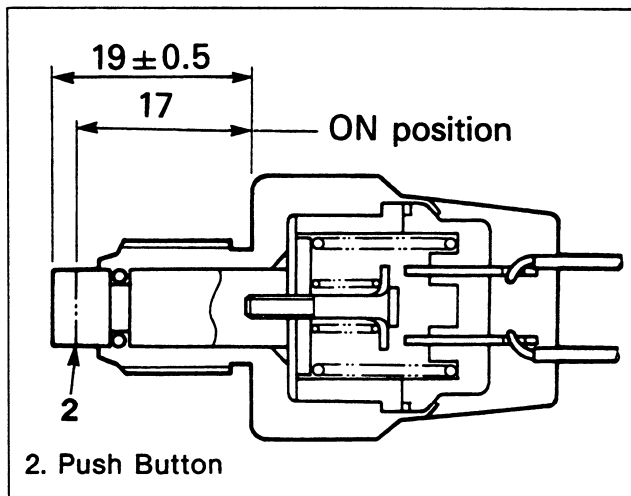

Figure 53. Sub Start Switch
1. Sub Start Switch (Figure 53)